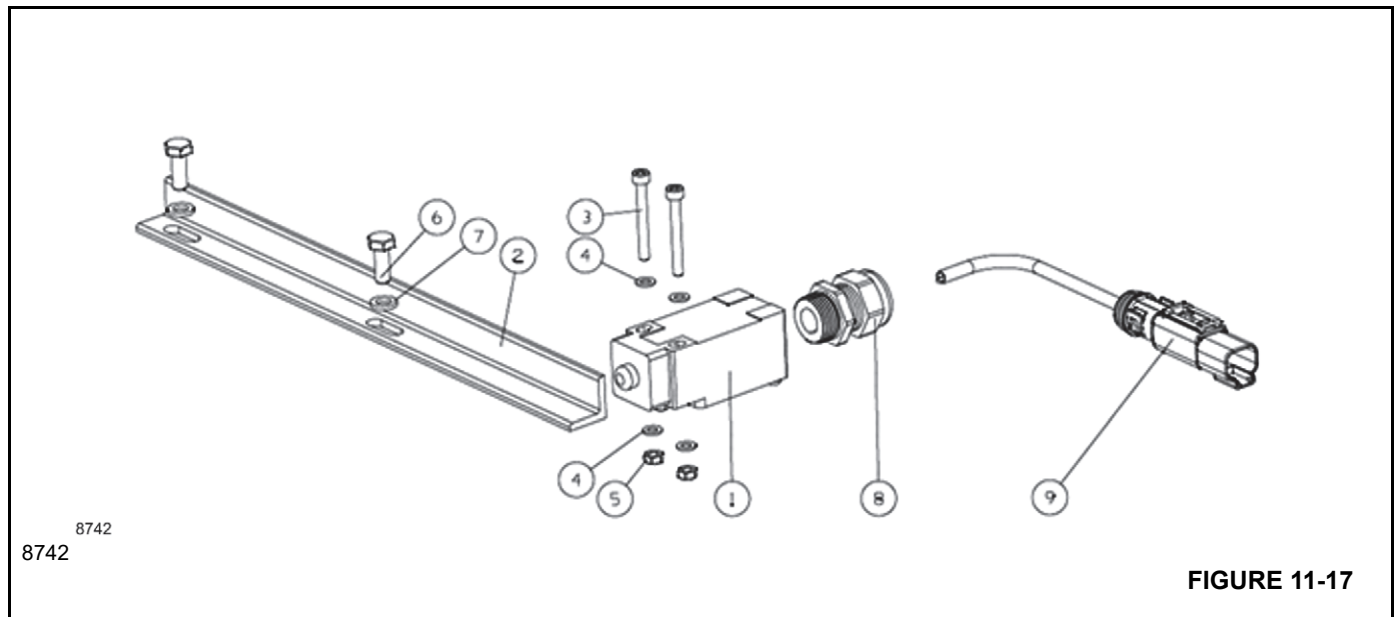

FIGURE 11-17
1. Unplug the connector (item 9, Figure 11-17) from crane harness.
2. Remove the socket head cap screws (item 3, Figure 11-17), washers (item 4, Figure 11-17), and nuts (item 5, Figure 11-17).
3. Remove the switch (item 1, Figure 11-17) from the DRI/ 3rd wrap bracket (item 43, Figure 11-14).
4. Remove the wire harness (item 9, Figure 11-17) from the switch (item 2, Figure 11-17) by loosening the nut (item 8, Figure 11-17).
5. Remove the cap screws (item 6, Figure 11-17) and washers (item 7, Figure 11-17) from the levers (item 2, Figure 11-15).
6. Remove the actuator plate (item 2, Figure 11-17) from the levers (item 2, Figure 11-15).
1. Using the cap screws (item 6, Figure 11-17) and washers (item 7, Figure 11-17) fasten the actuator plate (item 2, Figure 11-17) to the levers (item 2, Figure 11-15). Torque the cap screws (item 6, Figure 11-17) to 9.5 Nm (7 lb-ft).
2. Install the wire harness (item 9, Figure 11-17) into the switch (item 1, Figure 11-17) and tighten the nut (item 8, Figure 11-17).
3. Install the switch (item 1, Figure 11-17) onto the DRI/ third wrap bracket (item 43, Figure 11-14) using the socket head cap screws (item 3, Figure 11-17), washers (item 4, Figure 11-17), and nuts (item 5, Figure 11-17). Tighten the socket head cap screws (item 3, Figure 11-17) so that the switch will still move.
4. Adjust the position of the switch (item 1, Figure 11-17) so that the actuator bar (item 2, Figure 11-17) contacts the switch (item 1, Figure 11-17) pin lightly once the roller assembly (item 30, Figure 11-14) is in the lowest position.
5. Attach the connector (item 9, Figure 11-17) to the crane harness.